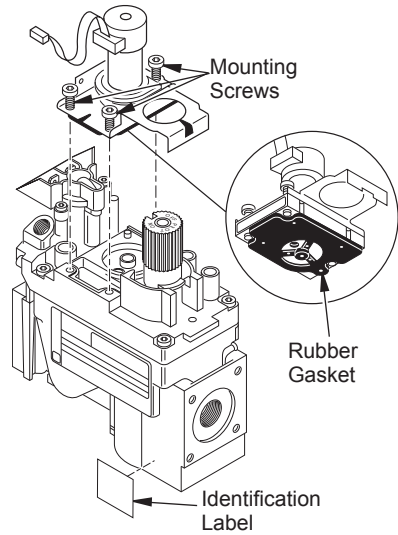

Figure 59 - Installing Pressure Regulator Assembly
2. Insure that the rubber gasket is properly positioned on the new pressure regulator assembly. Install LP pressure regulator assembly to valve using the new mounting screws supplied with the kit. Tighten screws securely (approximately 25 in-lbs.) (see Figure 59).
3. Install the identification label enclosed with the gas valve regulator to the valve body, where it can easily be seen (see Figure 59).